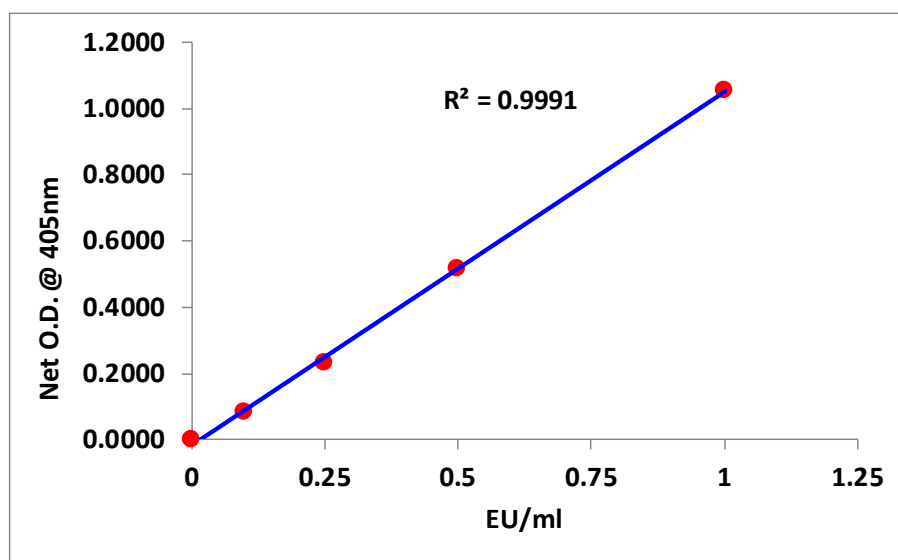

Figure 1. Example standard curve for the quantitation of endotoxin in a chromogenic assay.
- Use the formulated standard curve (linear regression) to determine the endotoxin concentration of each unknown sample (Figure 1).